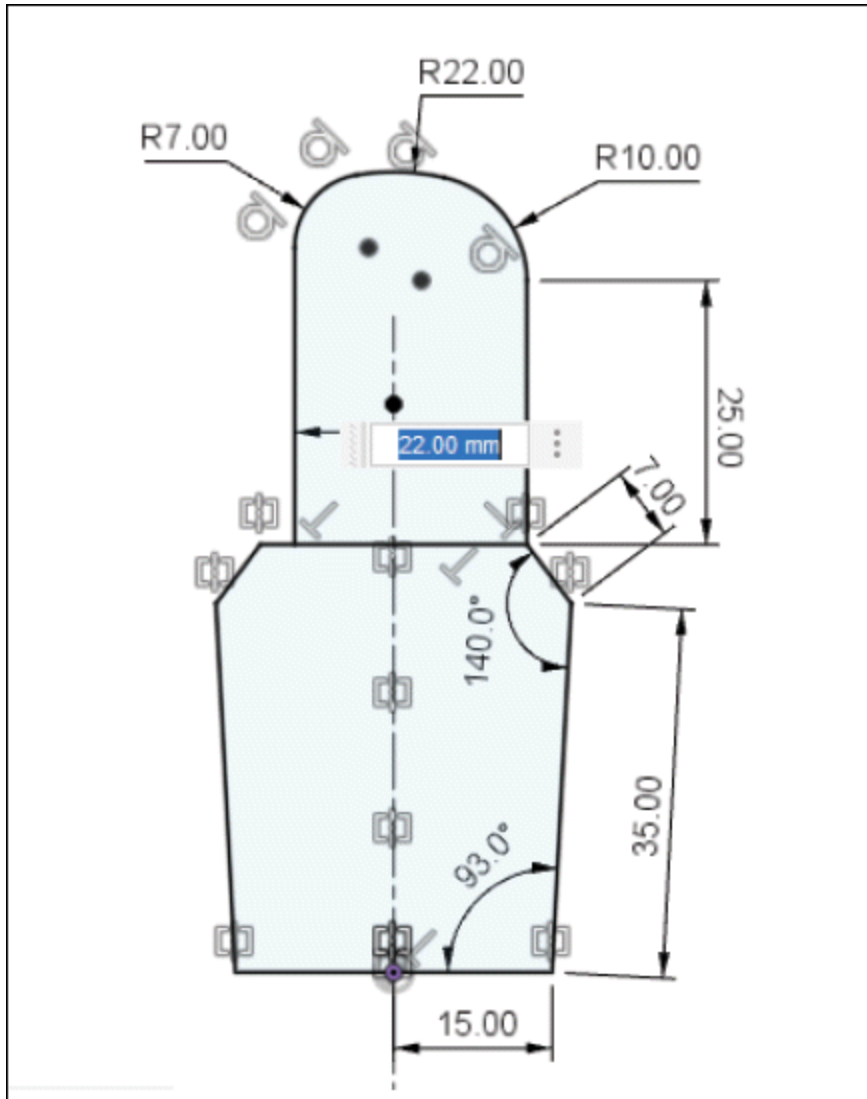

Figure-133. Select entities for dimension
- Select the entity and apply the dimension; refer to Figure-133.